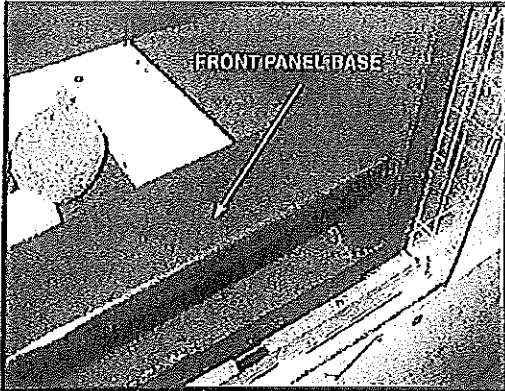

Figure 68: Front panel base.
1. Remove front panel base. Also remove rear panel base if Black Diamond Burner is fitted (Figure 68).